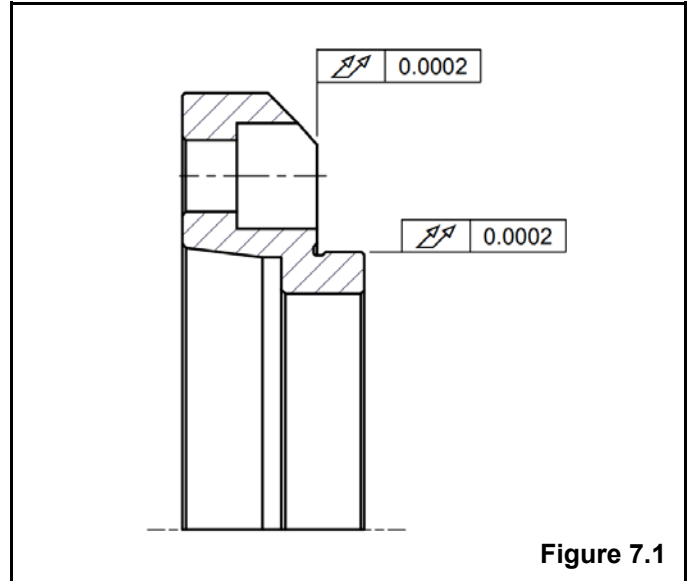

Figure 7.1
3. Use a dial indicator to measure the radial and face runout of the mounting surfaces of the adapter plate. Radial runout should not exceed .0002" (0.005mm), as seen in Figure 7.1. Runout of the face should not exceed .0002" (0.005mm). On flat spindle noses, the radial runout can be adjusted by loosening the mounting bolts and tapping the mounting plate with a plastic hammer. On tapered spindle noses no adjustment is possible. If the runout exceeds these values, remove the adapter from the spindle nose and ensure it is seated properly, and is clean and free from nicks and burrs. A skim cut can be taken on the pilot diameter and mounting face of the adapter once mounted to ensure both surfaces are running true.